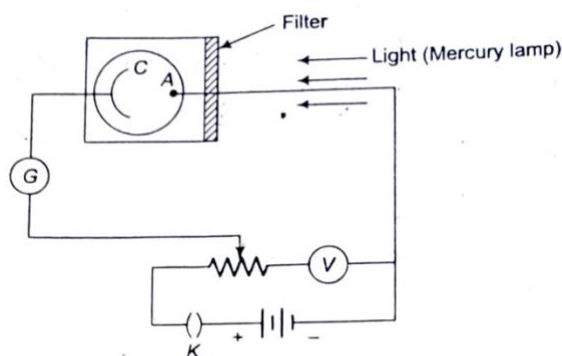

Fig. 12.1 Experimental arrangement for Planck's constant.
1. Make the connections as shown in Fig. 12.1. C and A are respectively the cathode and anode of the photocell.